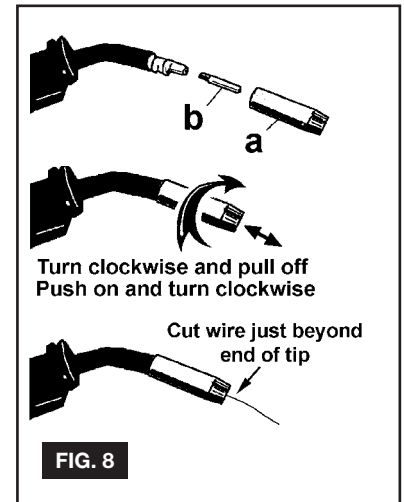

FIG. 8
- 8.1.8 **Feeding the wire through to the torch.** (See fig.8) Remove gas cup (a) and contact tip (b) from end of torch as follows: